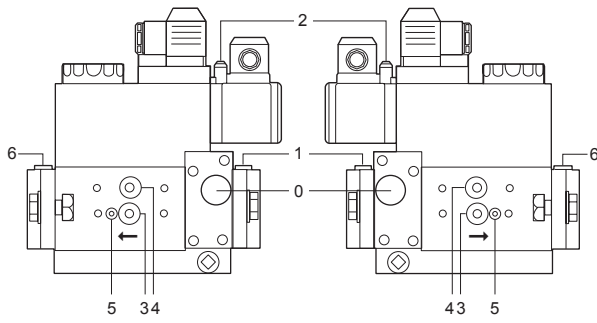
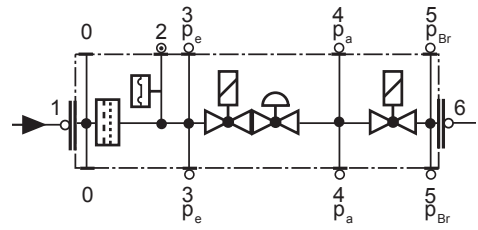

Fig. 19
Fig. 20
- Change the filter if the pressure difference between pressure connection 1 and 3 (Fig. 19-Fig. 20) is  $\Delta p > 10$  mbar.
- Change the filter if the pressure difference between pressure connection 1 and 3 (Fig. 19-Fig. 20) is twice as high compared to the last check.